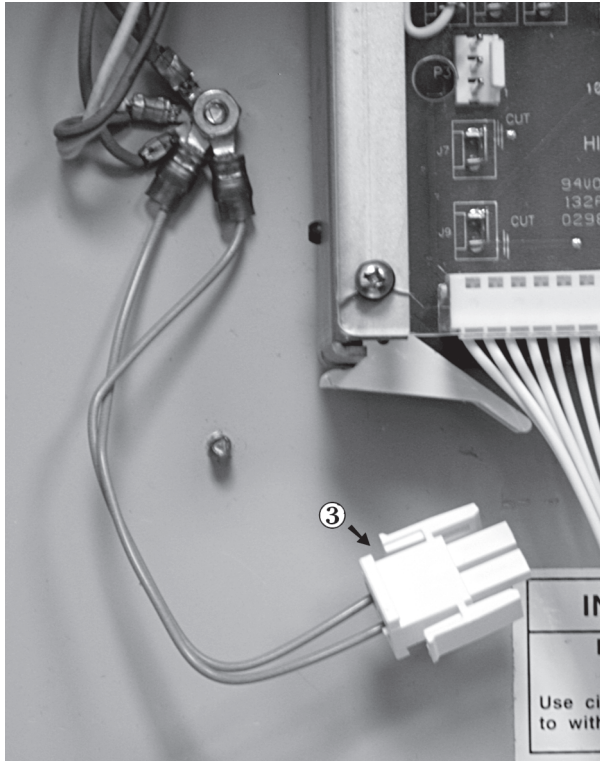

Figure 8-4 2-Pin Ground Connector
4. Disconnect the 2-pin ground connector (Item 3, Figure 8-4).
5. While supporting the control panel, remove the control panel hinge pins (2), then remove the control panel from the enclosure. Save hinge pins.
5. Connect the 2-pin ground connector (see Figure 8-4).